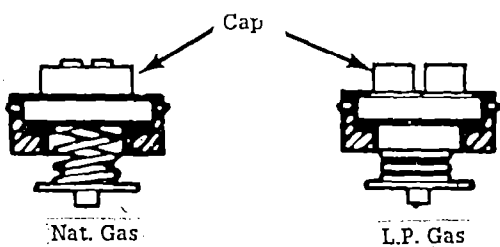

Figure 6
2. Remove the cap with screwdriver slot; turn it over; then replace the cap. This cap will then have the marking 'LPG10'. Do Not disturb or remove the spring beneath this cap. See Figure 6.